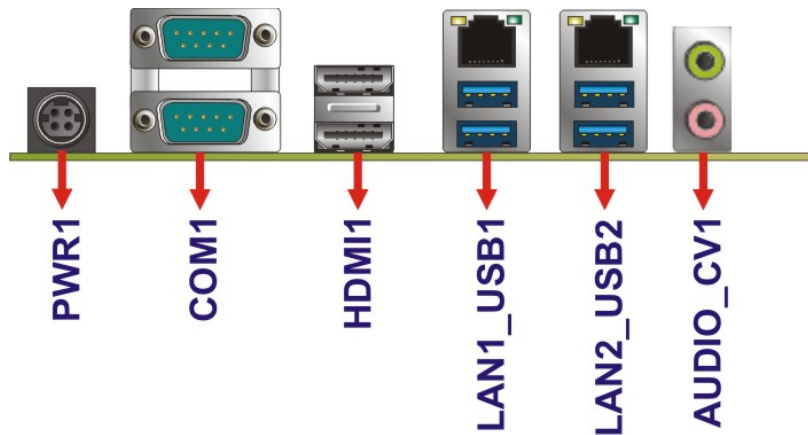

Figure 3-30: External Peripheral Interface Connector
CN Location: See Figure 3-30
- CN Location: See Figure 3-30
CN Location:	See Figure 3-30
- CN Location:See Figure 3-30